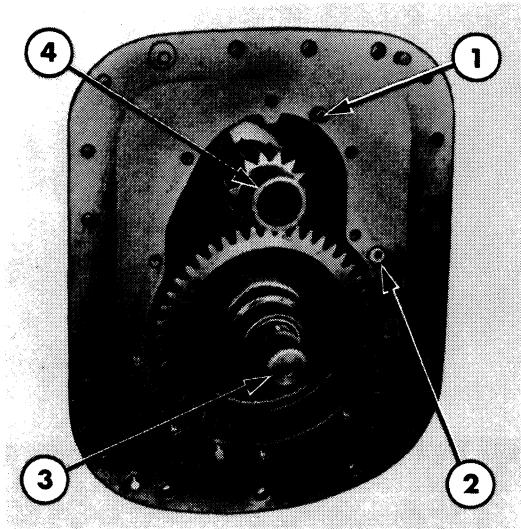

Figure 24
8. Pull the output shaft assembly straight out to remove, Figure 24. Withdraw the secondary countershaft from the case. Remove the circlip and the thin needle thrust bearing from the front of the countershaft.